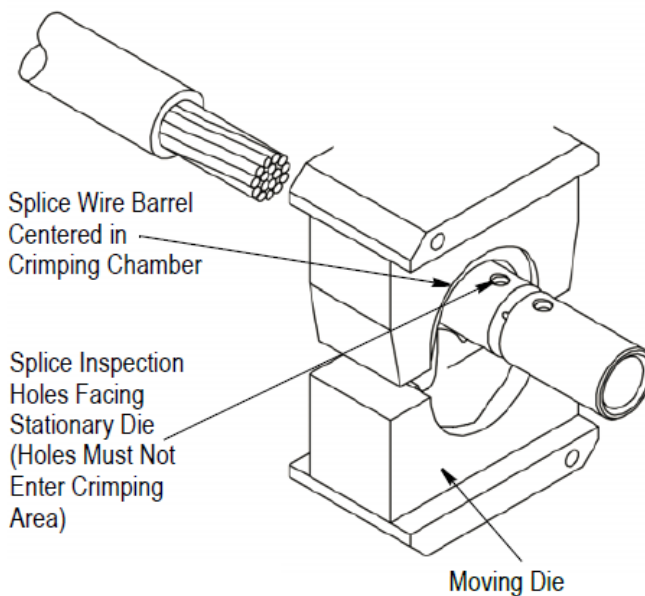

Figure 6
- Position the butt splice on the stationary die so the splice inspection holes face the stationary die. **Make sure the wire barrel to be crimped is centered in the crimping chamber** (see Figure 6).
BE VERY CAREFUL NOT TO DEFORM THE SPLICE. If the splice is deformed, the wire cannot be inserted properly (reference Figure 6).